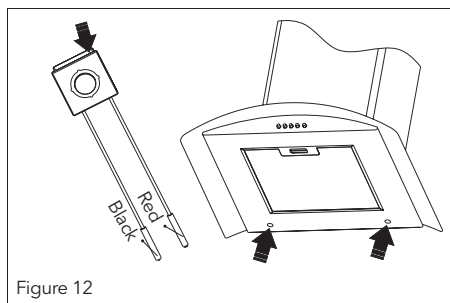

Figure 12
- LED bulb does not operate is possible to remove as shown in **Figure 12**
- Bulb does not operate is possible to remove as shown in. (**Figure 12**)